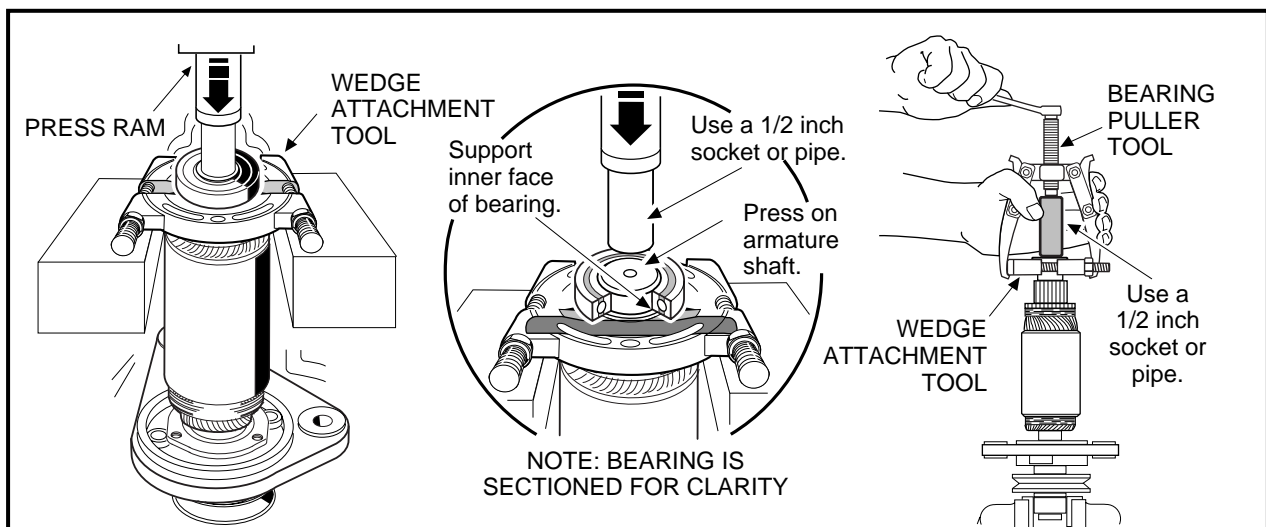

Figure 12-10 Bearing Removal
1. Place the wedge attachment tool (CCI 1012812) between the bearing and the armature. Make sure the wedge attachment tool is supporting the inner race of the bearing. If a press is not available, secure a bearing puller (CCI 1012811) to the wedge attachment tool and pull the bearing off of the end of the armature shaft. Support the armature so that it will not drop when the bearing is removed (**Figure 12-10, Page 12-7**).